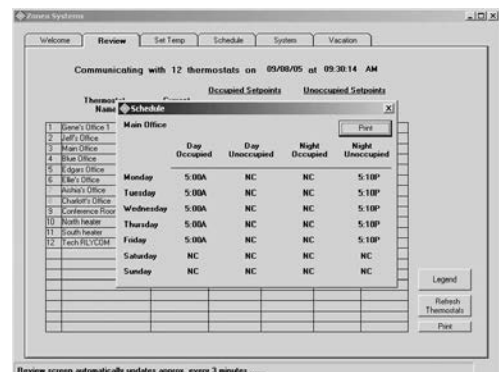

Fig. 19
2. Click on a thermostat name to display Schedules after they have been entered (see Fig. 19).
- B. Click on the thermostat name (see Fig. 19).